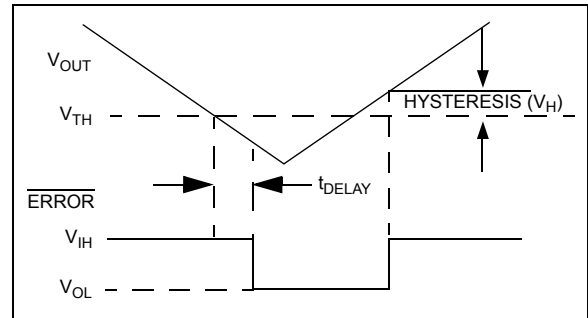

FIGURE 4-2: Error Output Operation.
$\overline{\text{ERROR}}$  is driven low whenever  $V_{OUT}$  falls out of regulation by more than -5% (typical). This condition may be caused by low input voltage, output current limiting or thermal limiting. The  $\overline{\text{ERROR}}$  threshold is 5% below rated  $V_{OUT}$ , regardless of the programmed output voltage value (e.g.  $\overline{\text{ERROR}} = V_{OL}$  at 4.75V (typ.) for a 5.0V regulator and 2.85V (typ.) for a 3.0V regulator).  $\overline{\text{ERROR}}$  output operation is shown in Figure 4-2.
- Changes to Figure 4-2.